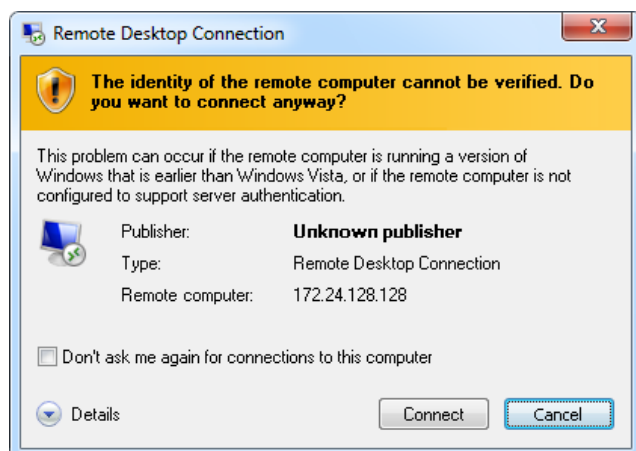
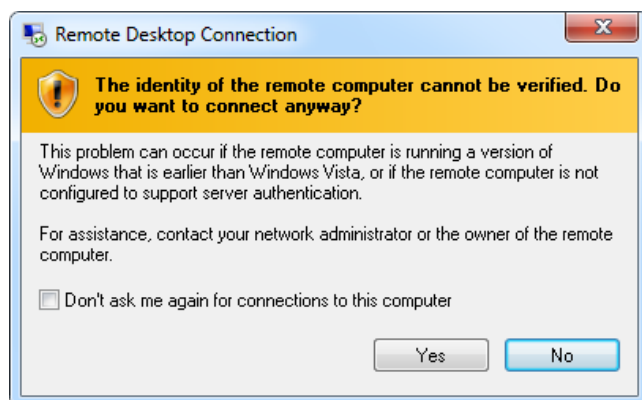

Fig. 7.2 Windows dialog: Setting up the connection
Fig. 7.3 Identity of the remote computer display
11. If Windows queries whether a connection to the remote computer should be set up, set up the connection (Fig. 7.2). We recommend activating the option **Do not ask about connection to this computer again**.
12. Depending on the configuration of your Windows operating system, another query as to whether the connection should be set up may be displayed (identity of the remote computer, Fig. 7.3). If necessary, activate the option to prevent the query.
11. If Windows queries whether a connection to the remote computer should be set up, confirm the connection. We recommend activating the option **Do not ask about connection to this computer again** (see Fig. 7.2 on Page 32). Depending on the configuration of your Windows operating system, another query as to whether the connection should be set up may be displayed (identity of the remote computer). If necessary, activate the option to prevent the query (see Fig. 7.3 on Page 32).
6. If Windows queries whether a connection to the remote computer should be set up, confirm the connection. We recommend activating the option **Do not ask about connection to this computer again** (see Fig. 7.2 on Page 32). Depending on the configuration of your Windows operating system, another query as to whether the connection should be set up may be displayed (identity of the remote computer). If necessary, activate the option to prevent the query (see Fig. 7.3 on Page 32).